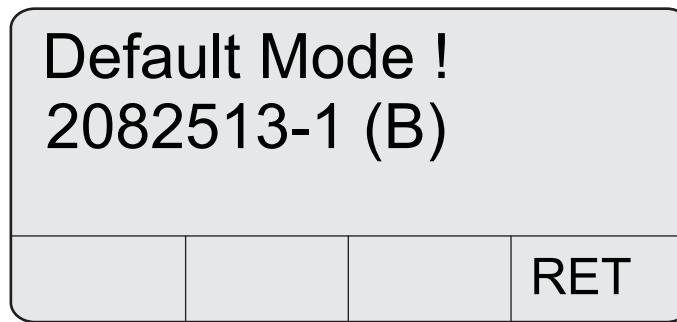

Figure 26 Default mode screen
2. Hold down 1 and 2 while turning the power on. Release the keys when the MET ONE 227 particle counter beeps once. The Default mode screen is displayed (refer to Figure 26 on page 32).